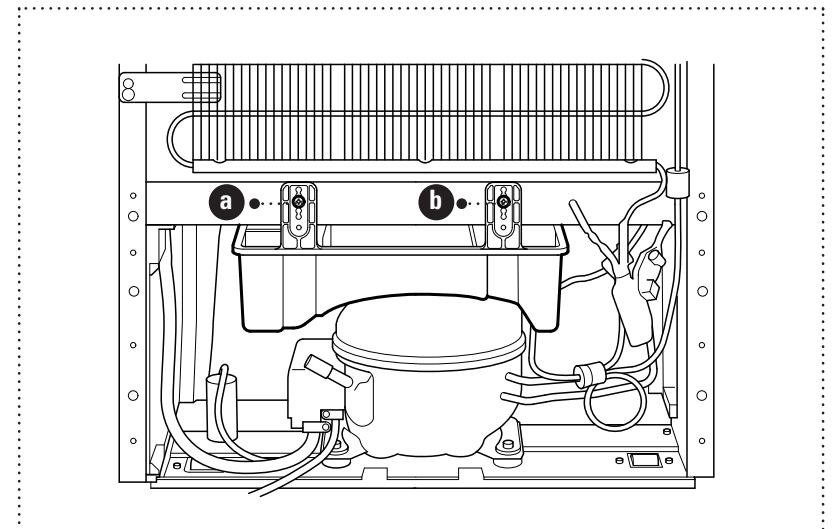

Figure 6
- 1 Remove the vaporisation container by unscrewing the 2 screws (Figure 6 **a** and **b**)